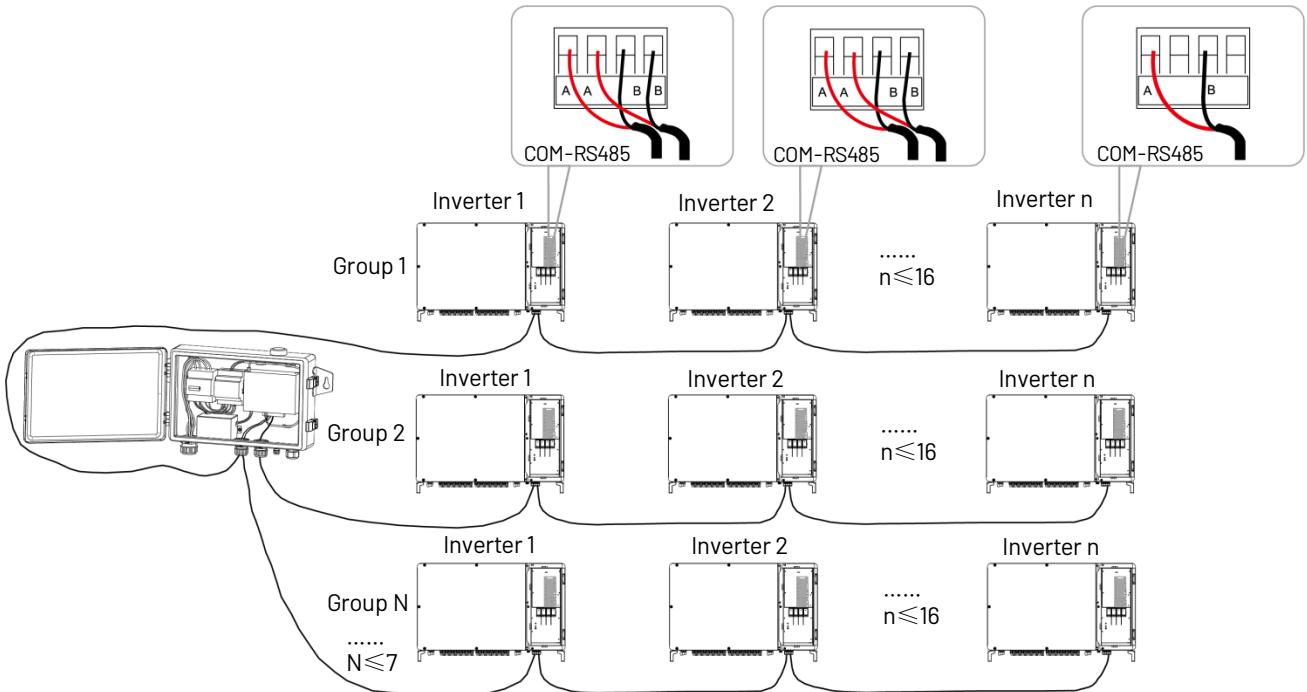

Figure 4-14
- 3) In case of multiple inverters, all the inverters can be connected via RS485 cables in the daisy chain manner, as shown in Figure 4-14.